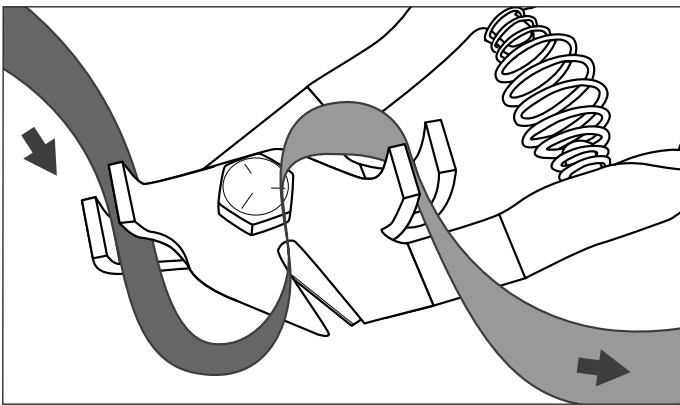

Figure 1
1. Thread the poly strapping through both tightener grips and squeeze the handles to grip strapping. (See Figure 1)